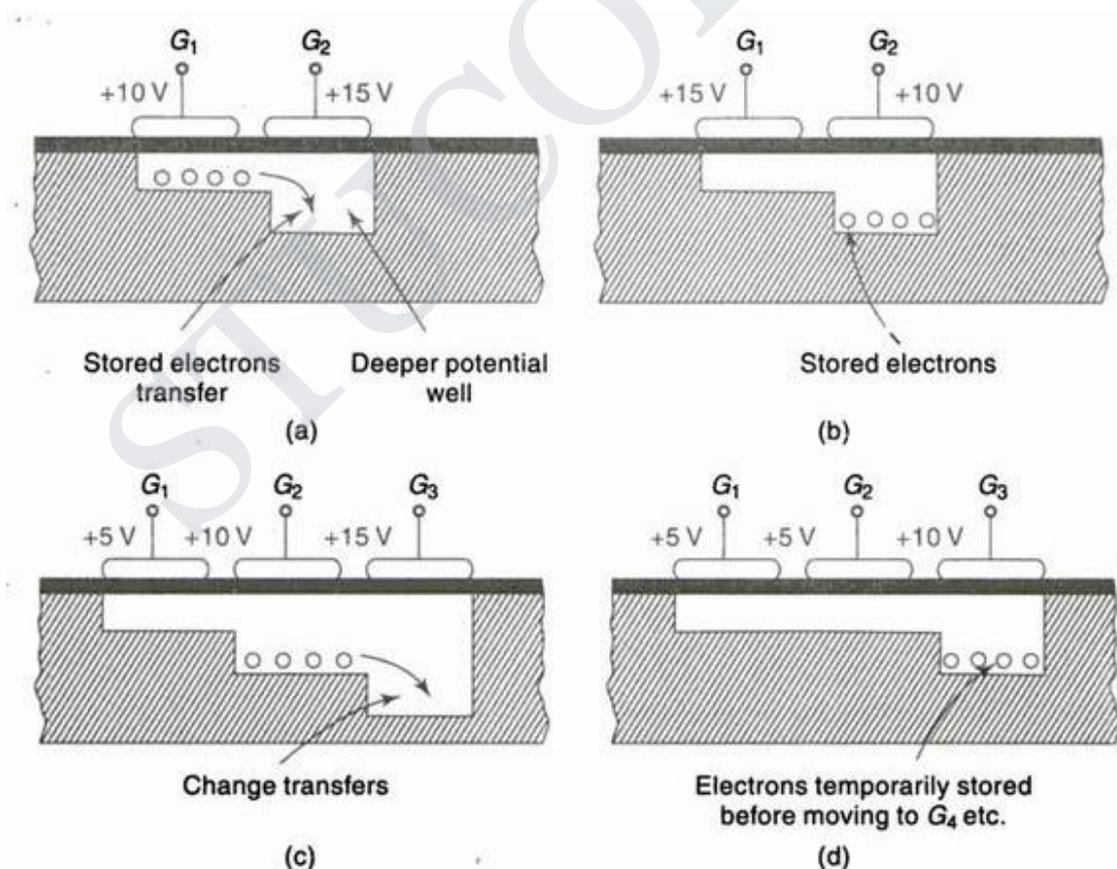

Fig. 7.20 The mechanism of charge transfer in a three phase CCD
- A third-phase transfers a +15 V voltage pulse to the next gate G3 and the charge is transferred from G2 to the well under it, as shown in Fig.(c). The voltages on G2 and G3 can be relaxed as before as shown in Fig. 7.20(d), to complete one cycle of the clock frequency.